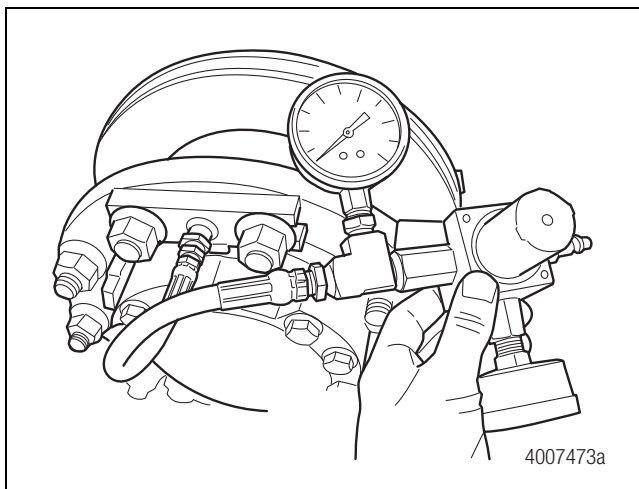

Figure 19.15
12. Note the pressure in the gauge. The pressure should not drop more than 10 psi (0.69 bar) in one minute. If the air pressure drops more than 10 psi (0.69 bar) in one minute, determine the source of the leak and repair or replace as necessary. Use a soapy water solution to inspect for leaks. Make sure the leaks are not coming from the test equipment. Figure 19.15.